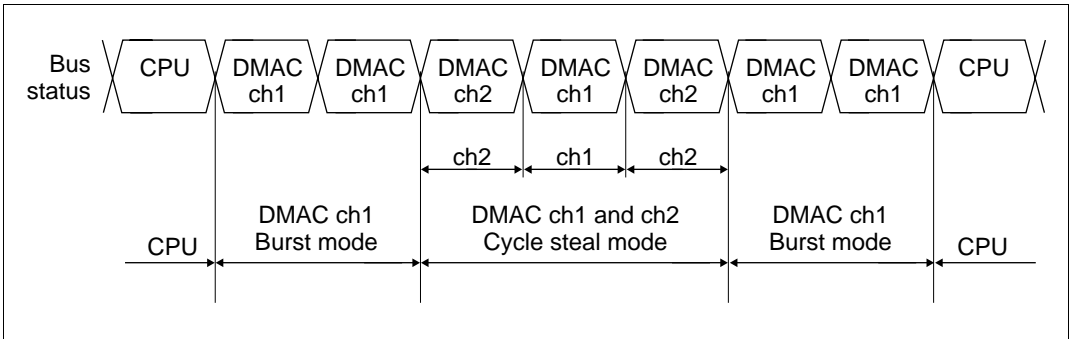

Figure 9.12 Bus Handling when Multiple Channels Are Operating
with higher priority (2) will begin immediately. When channel 2 is also operating in the burst mode, the channel 1 transfer will continue when the channel 2 transfer has completely finished. When channel 2 is in the cycle steal mode, channel 1 will begin operating again after channel 2 completes the transfer of one transfer unit, but the bus will then switch between the two in the order channel 1, channel 2, channel 1, channel 2. Since channel 1 is in burst mode, it will not give the bus to the CPU. This example is illustrated in figure 9.12.